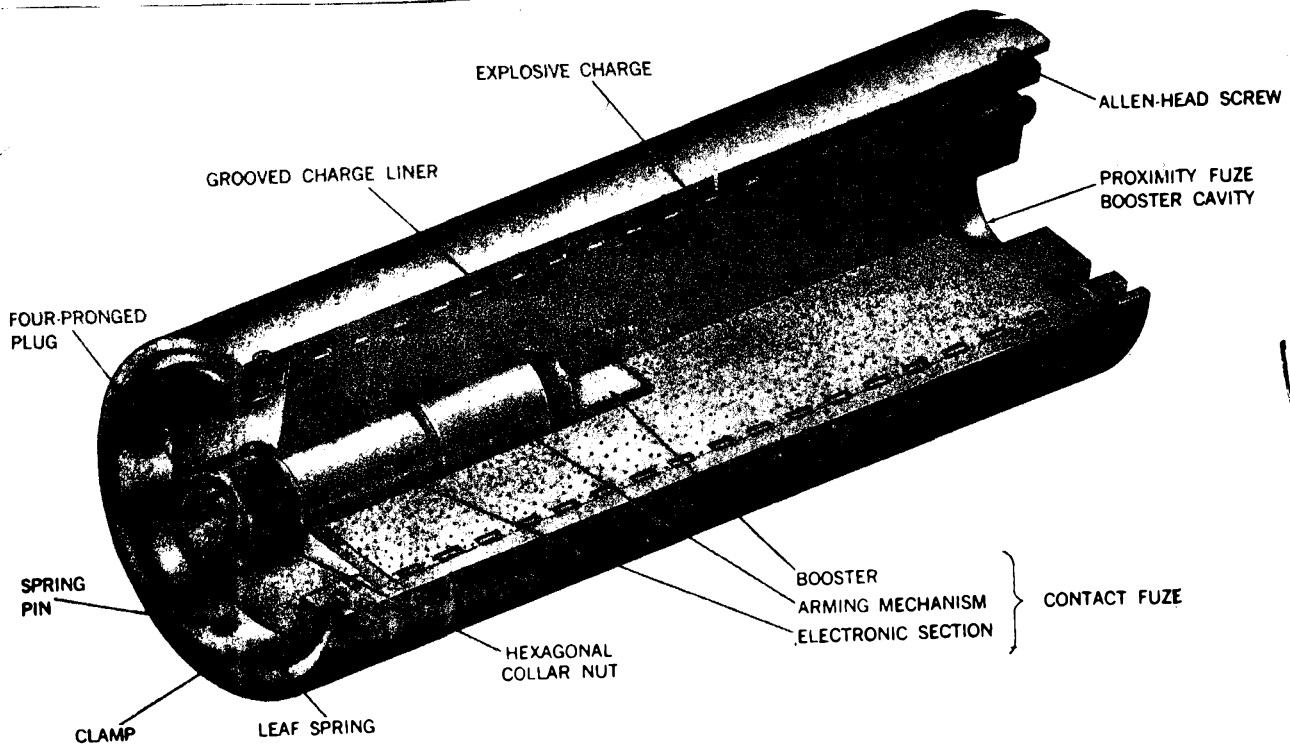

Figure 5-41. Cutaway view of warhead with contact fuze in place
a. Warhead (W/H): A 25-pound fragmentation type, located aft of the G&C unit. (reference figure 5-41).